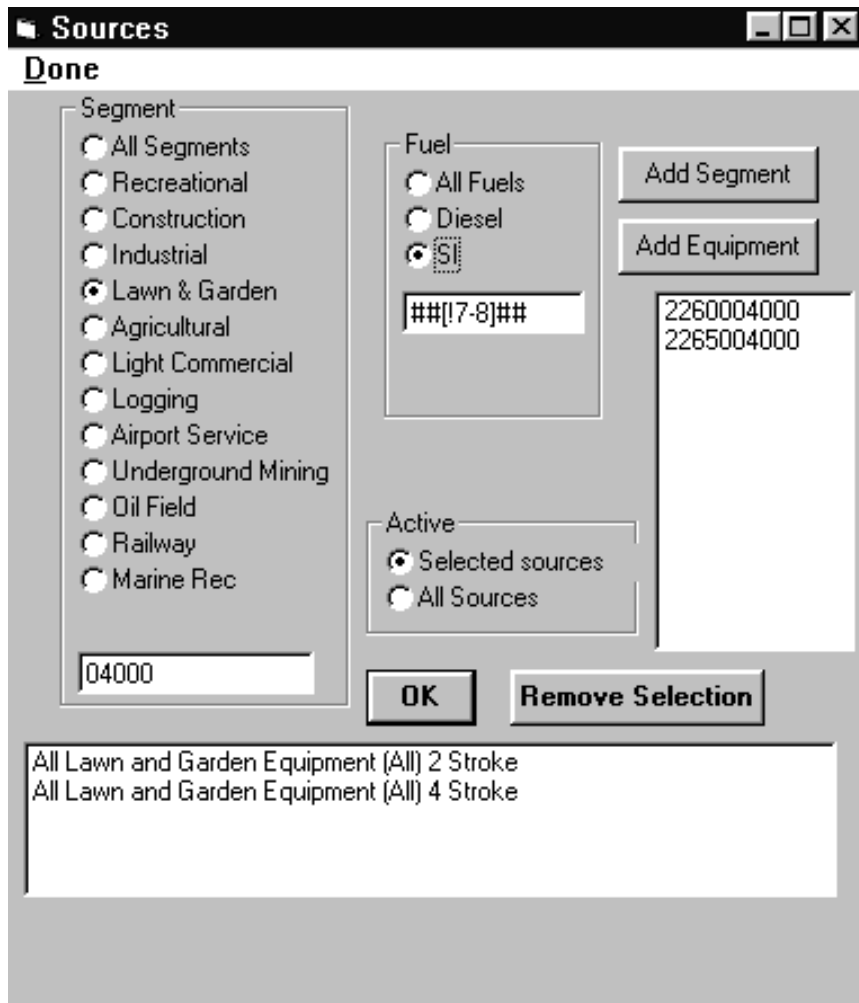

Figure 3-6: Sources screen.
1. Use the left mouse button to click on **Scenario** (or press <Alt-S>) and then **Sources** (or press <S>). The Sources screen will appear (Figure 3-6).